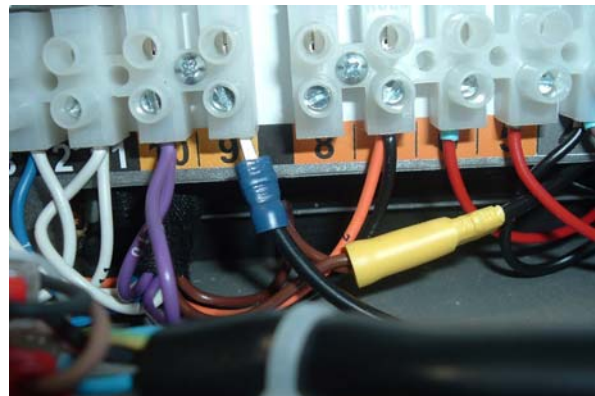

fig.2 – Purple wire to terminal 10.
5. Locate and position the **PURPLE** wire from the relay and using an electrical screwdriver, secure into terminal 10 of the terminal rail (fig.2).